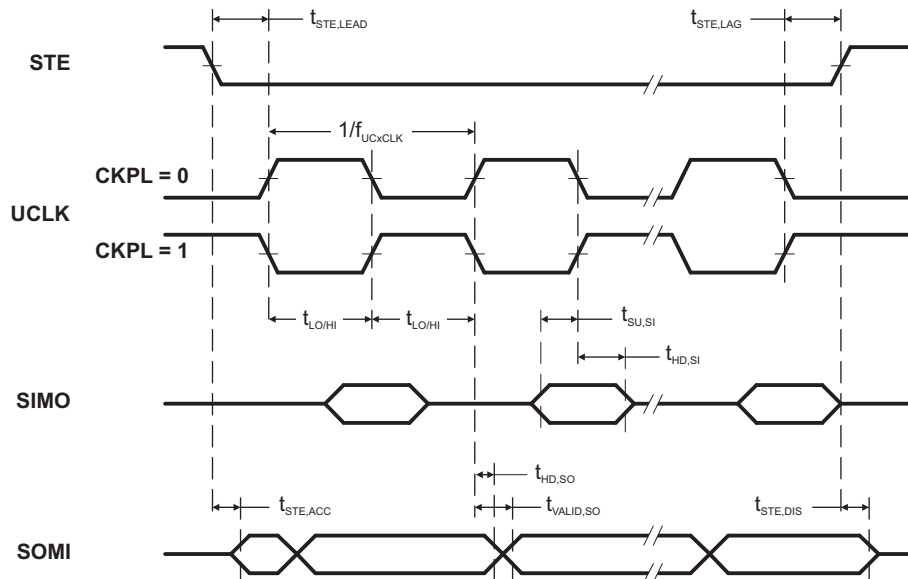
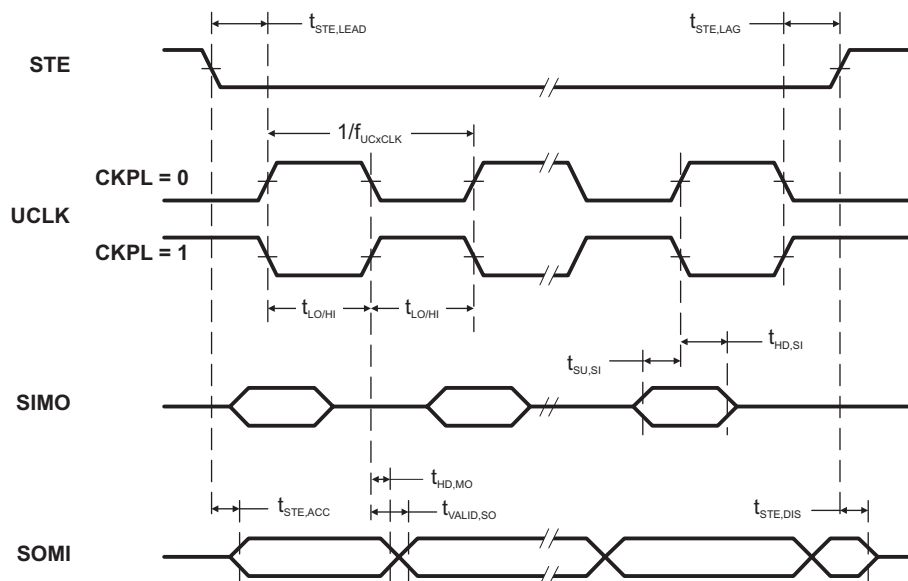

Figure 14. SPI Slave Mode, CKPH = 0
Figure 15. SPI Slave Mode, CKPH = 1
(see Note ⁽¹⁾, Figure 14 and Figure 15)
(2) Specifies the time to drive the next valid data to the SOMI output after the output changing UCLK clock edge. See the timing diagrams in Figure 14 and Figure 15.
(3) Specifies how long data on the SOMI output is valid after the output changing UCLK clock edge. See the timing diagrams in Figure 14 and Figure 15.